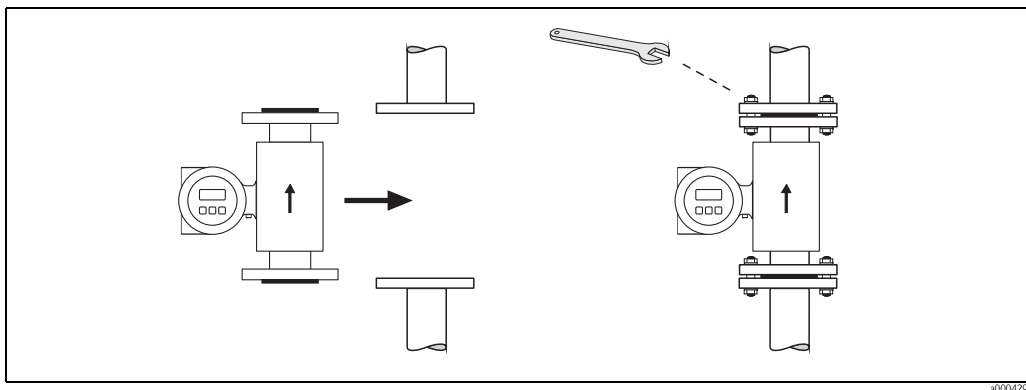

Fig. 19: Installing the Promag P sensor
1. Place the ground disk and additional seal(s) between the device and the pipe flange (→ Fig. 19).